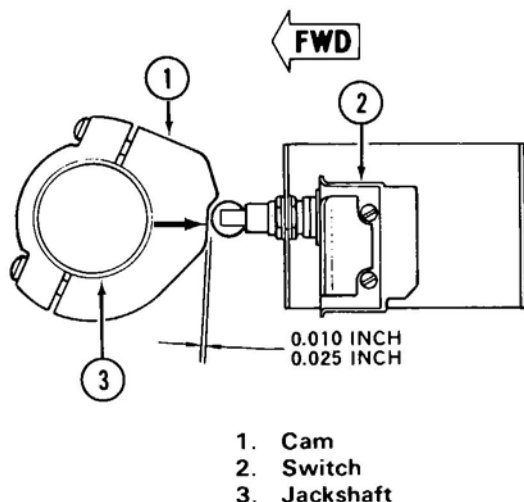

Figure 96-10. Bleed Air Priority Switch
96.12.10.3 Adjust switch to obtain 0.010 to 0.025 inch clearance between the cam and the switch roller actuator (Figure 96-10).